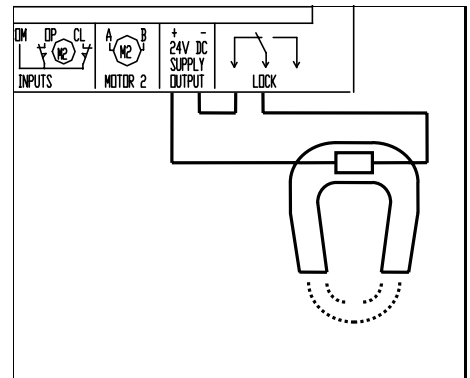

**Figure 15: Wiring solenoid locks**
**Figure 15** shows how to connect an electric solenoid lock to the control board's lock release output. Note the lock release output only switches the applied voltage to the lock and must be "wetted" with the appropriate voltage.